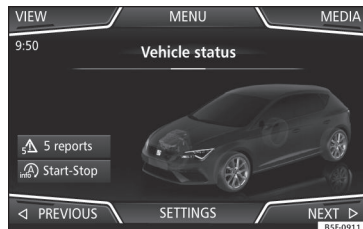

Fig. 89 Easy Connect: Vehicle Menu.
- **OR:** Press the infotainment button **CAR** to go to the **Vehicle** **Fig. 89** menu.